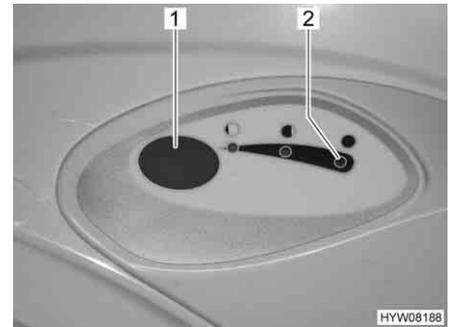

Fig. 171 Flush button/indicator lamp
- For flushing, press the blue flush button (Fig. 171,1).
The indicator lamp (Fig. 171,2) goes on whenever the sewage tank has to be emptied.